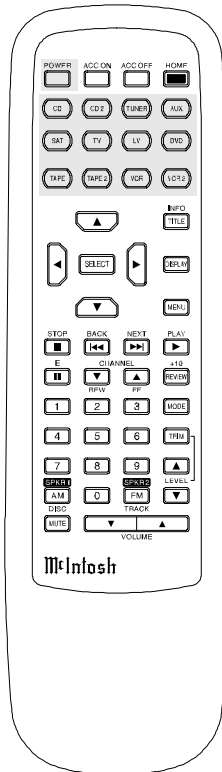

Figure 2
B. If the cable is stranded, carefully twist the strands together as tightly as possible. Refer to figures 2 & 3.
Select the desired source with the appropriate push-button switch on the Front Panel or Remote Control. Refer to figures 2 and 3 and page 15 for additional information.